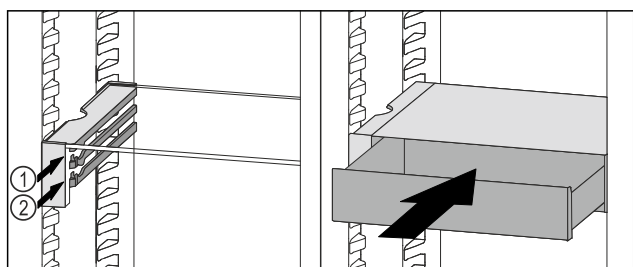

Fig. 183
- Place the VarioSafe drawer behind the stoppers on desired rib Fig. 183 (1) or Fig. 183 (2).